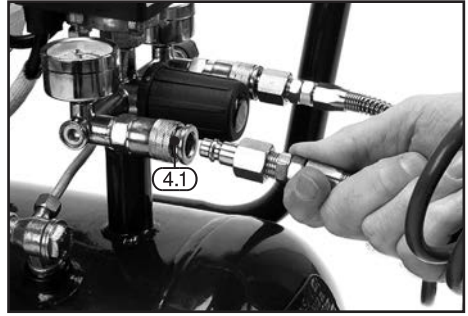

FIG.4
9.1 BASIC COMPRESSOR OPERATION – FIGS. 4 - 5
- Connect the air line to the compressor by pulling back the collar (4.1) on the air outlet quick coupling (4) and inserting the corresponding air coupling fitted on the air line. Release the collar so it slides back in place to secure the air coupling.
- Turn the air regulator clockwise to its lowest setting and turn on the compressor by lifting the pressure switch On/Off button (3) upwards.
- Once the compressor has reached maximum pressure, open the regulator valve (5) to the desired pressure on the air outlet regulator gauge (6).